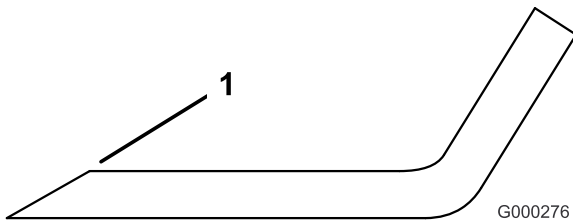

Figure 102
1. Use a file to sharpen the cutting edge at both ends of the blade (Figure 102). Maintain the original angle. The blade retains its balance if the same amount of material is removed from both cutting edges.